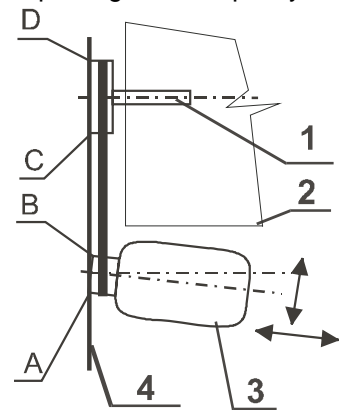

Fig.5.9.
Do the inspection of the alignment by means of a ruler (fig. 5.9., pos. 4) with placing it on the pulley faces.